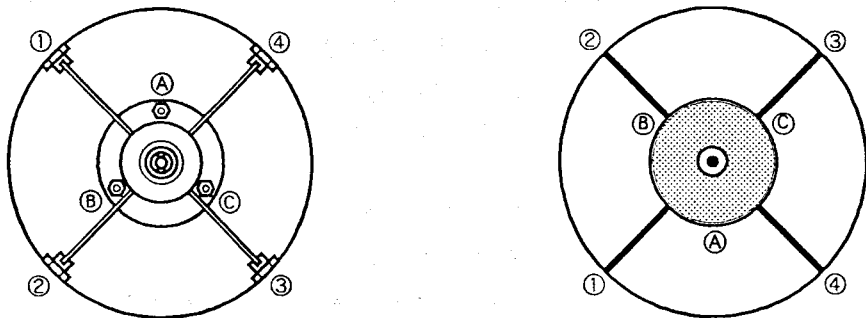
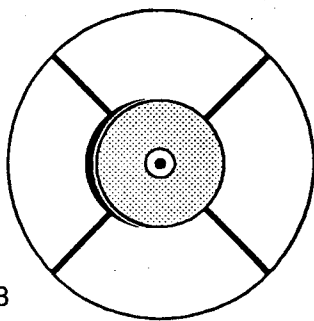

Fig.17
Fig.18
4) At first, loosen the lock nut of the adjusting screw. If the center mark of the secondary mirror is off from the center of the collimating scope as seen in the fig.15, Loosen the adjusting screws A and C, but pusing the screw B as shown in the fig.17. Then, the center mark of the secondary mirror comes close to the center of the collimating scope. Keep this procedure until the mark is just laid over the center of the collimating scope.
- 2) For example, take the case as shown in the fig.18 where the outer circle of the baffle of the secondary mirror is shifted to the left side. Loosen with an Allen wrench the pull screws ① and ② in the fig.17 and tighten the screws ③ and ④.